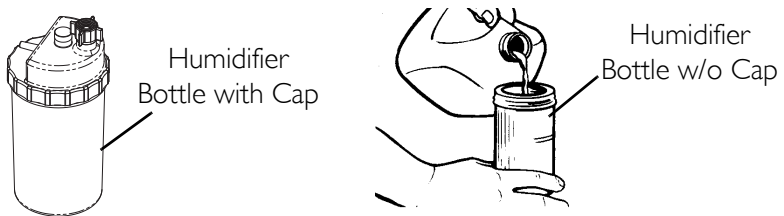
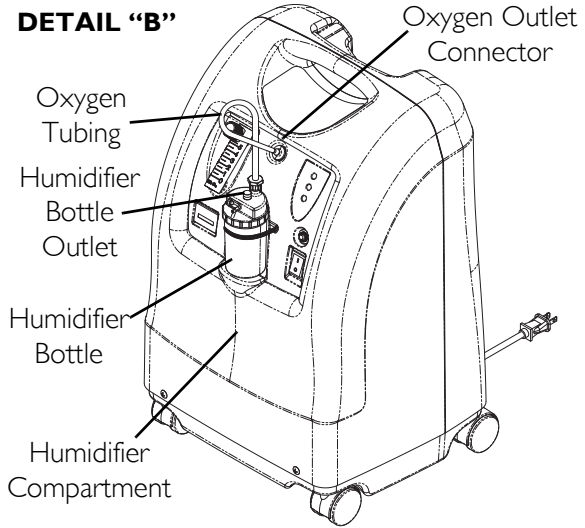

FIGURE 5.1 Filling the Humidifier
FIGURE 5.3 Humidifier Compartment
NOTE: For this procedure, refer to FIGURE 5.1, FIGURE 5.2 on page 17, FIGURE 5.3 on page 18.
5. Attach the humidifier bottle adapter to the humidifier bottle by turning the wing nut on the humidifier bottle counterclockwise until it is securely fastened. See Detail "A" in FIGURE 5.3.
6. Place the humidifier bottle/adapter assembly in the humidifier compartment on the concentrator. See Detail "B" in FIGURE 5.3.
7. Attach oxygen tubing from the humidifier bottle/adapter assembly to oxygen outlet connector on the concentrator. See Detail "B" in FIGURE 5.3.
8. Attach the cannula/patient supply tubing to the humidifier bottle outlet. See Detail "B" in FIGURE 5.3.